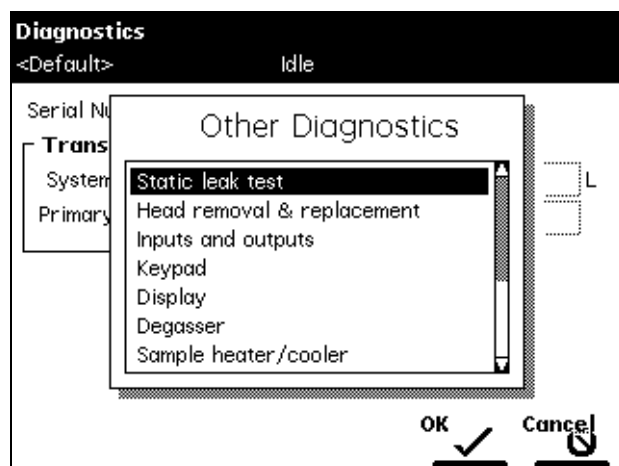

Figure 8-6 Other Diagnostics Screen
1. In the Main screen, press the **Diag** screen key, then press **Other Diags**. The Other Diagnostics screen is displayed (Figure 8-6).